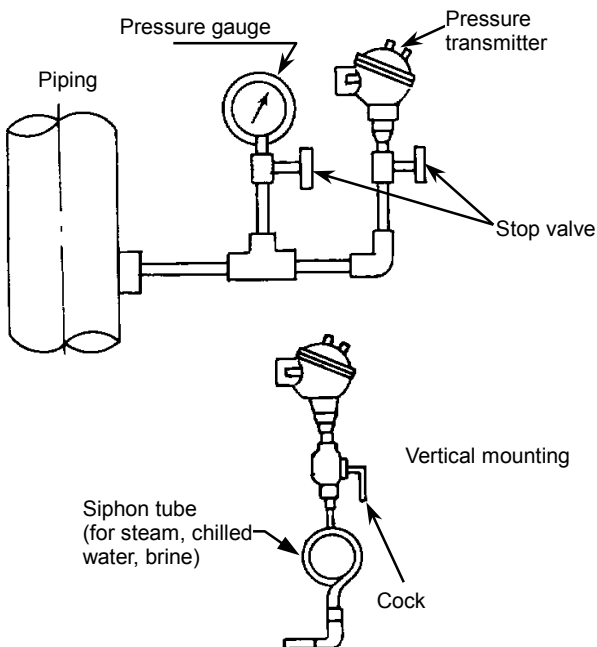

Fig.2 Mounting Method
- 3) Connect the instrument to its piping together with the pressure gauge as shown in Fig. 2.